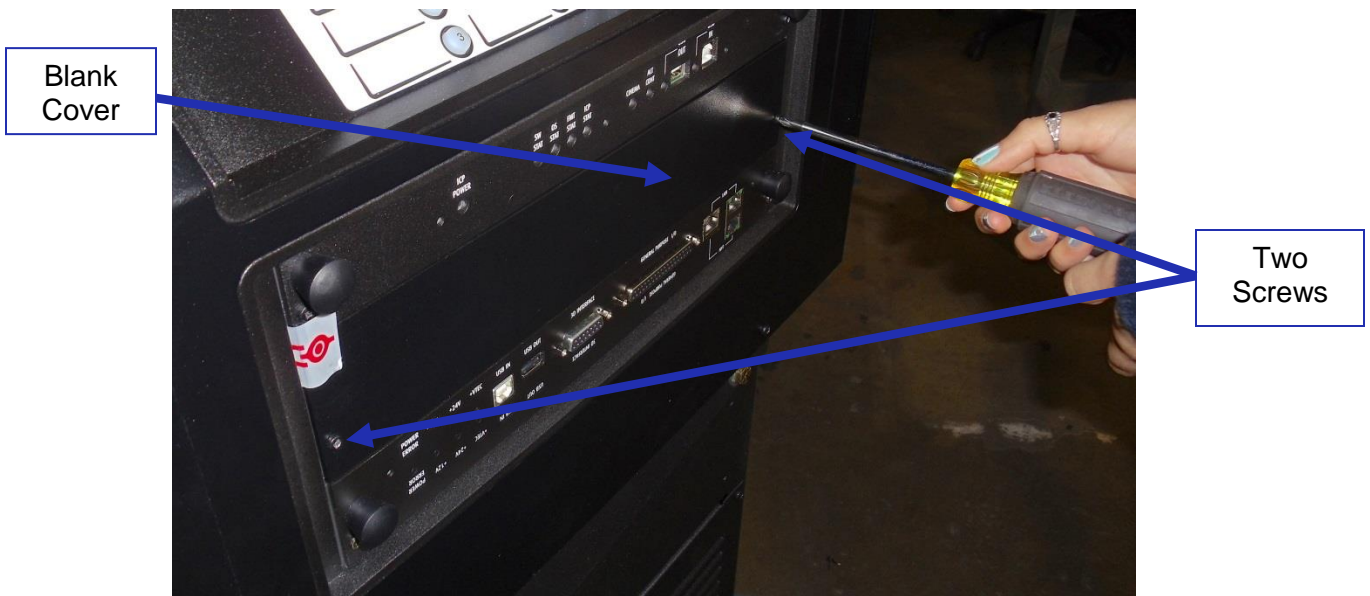

Figure 43: Unscrewing the Blank Cover
- Remove the blank cover of the media block slot by unscrewing the two screws on the sides (Figure 43).